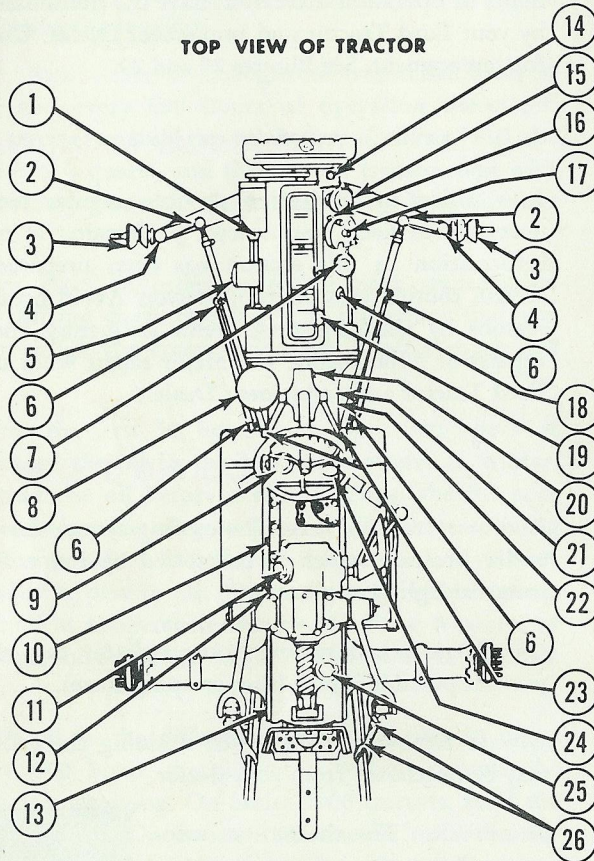

Figure 28
Pressure-Type Fittings: Clean the fittings on the Lift Link Leveling Box and Fork, Front Axle Spindles, Clutch Pedal, Steering Drag Links and the Clutch Release Bearing. Apply pressure gun grease and wipe the fittings clean. See Figure 28.
Rear Axle: Remove the rear axle inspection plug (13), Figure 28, and check the level of the oil. If necessary, add oil. Refer to "SERVICE EVERY 600 HOURS."
4-Speed and 5-Speed Transmissions: Remove the transmission oil level inspection plug (24), Figure 28, and add oil, if required. Refer to "SERVICE EVERY 600 HOURS."
Steering Housing: Check the lubricant level at the steering gearcase plug (20), Figure 28. Add grade "O" grease with a suction gun and fill to the level of the filler plug hole.
Power Steering Pump Reservoir: Check the oil level every 100 hours of operation. Remove the pump reservoir top, Figure 28. It is essential that the tractor wheels be straight ahead when checking the oil level and that the level be maintained to $\frac{5}{8}$ " from the top edge of the can. Clean the filter screen if sediment is noted in the fluid.
Differential: Replace the oil in the differential after the first 50 hours of operation and every 600 hours thereafter. In winter, operate the tractor to thin the oil before draining. On Series 2000 tractors, refill the differential with 8 quarts of oil. On Series 4000 tractors refill the differential with 11½ quarts of oil. See (25), Figure 28. Use mild extreme pressure lubricant SAE 80, both summer and winter.